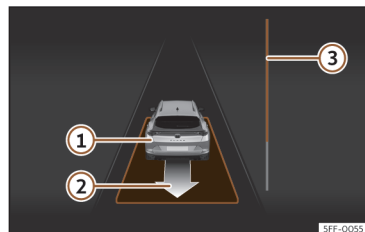

Fig. 194 On the instrument panel display: exit a parallel parking space.
- Reverse until the continuous ParkPilot signal sounds; **OR:** reverse until the instrument panel display shows the forward indication. The progress bar >>> **Fig. 194**  indicates the distance to cover >>> page 278.